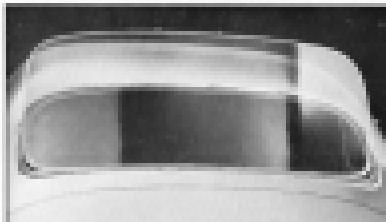

Fig. 29. Inserting Back Window Glass.
5. Insert the lower end of glass in the groove of the rubber channel (See Fig. 29). Lower glass and with a flat-bladed tool carefully rock the lip of the rubber over the edge of glass around the entire opening.